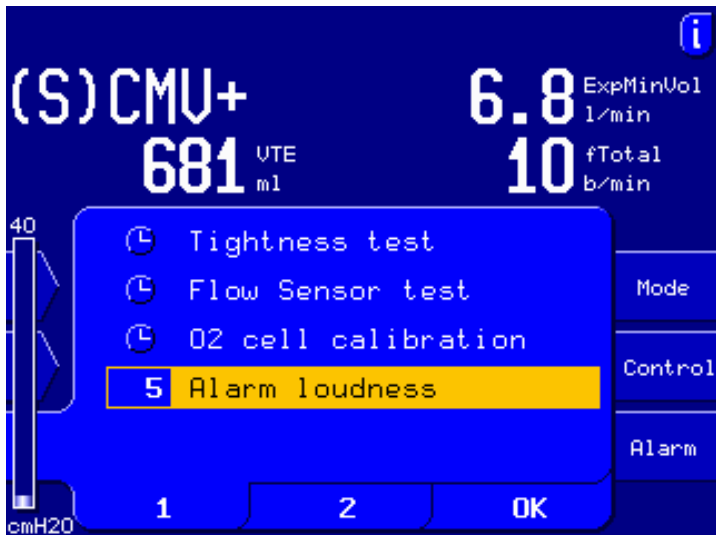

Figure 3-4. Adjusting alarm loudness
1. Activate **Alarm loudness** from utilities window 1 (Figure 3-4).